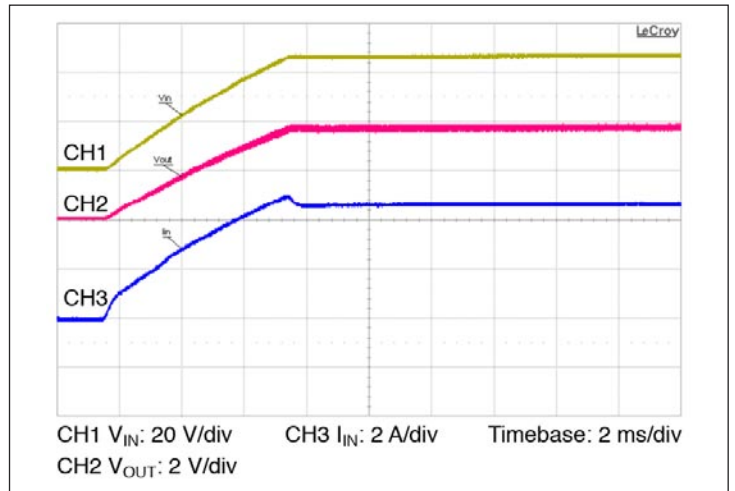

Figure 10 — Start up from application of V_{IN} ; VC pre-applied $C_{OUT} = 9100 \mu F$
- Normal operation (VC applied prior to V_{IN}): In this case the controller is active prior to ramping the input. When the input voltage is applied, the VTM module output voltage will track the input (See Figure 10). The inrush current is determined by the input voltage rate of rise and output capacitance. If the VC voltage is removed prior to the input reaching 26 V, the VTM may shut down.